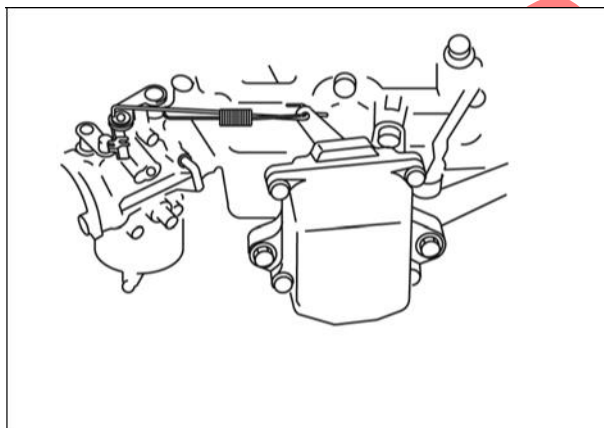

Figure 31
1. Assemble governor link spring and link to actuator lever (Figure 31).